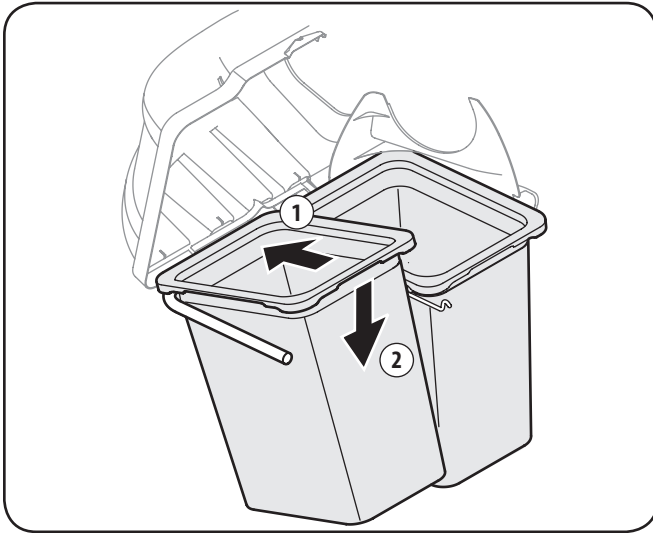

Figure 5-13
14. Install both bag assemblies onto the bag support brackets by inserting the front edge in first, as seen in 1 of Figure 5-13, and setting the back edge down until it fits into the assembly (2).